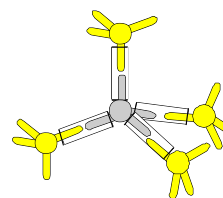

Fig. 8 Cation C.N. 4.
9. Surround one zinc with four sulfides to form a separate model to show the cation coordination number of four. (Fig. 8)